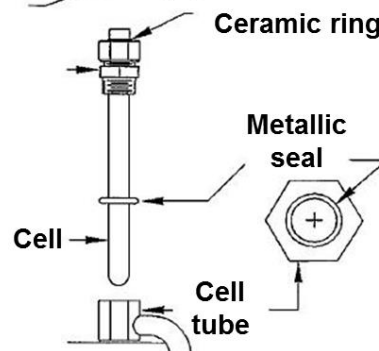

Figure 1
- Proceed to disassembly (cf Figure 1)